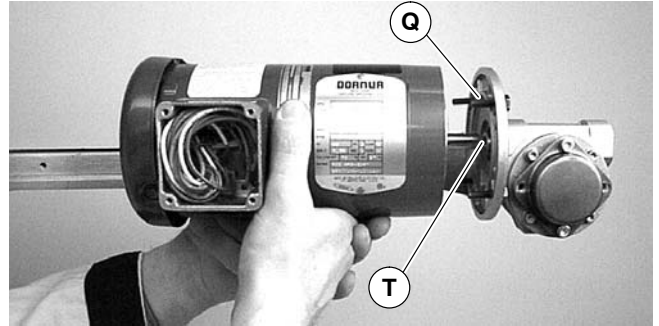

Figure 25
5. With key (T of Figure 25) in keyway, slide motor and gear reducer together. Install screws (Q) and tighten.